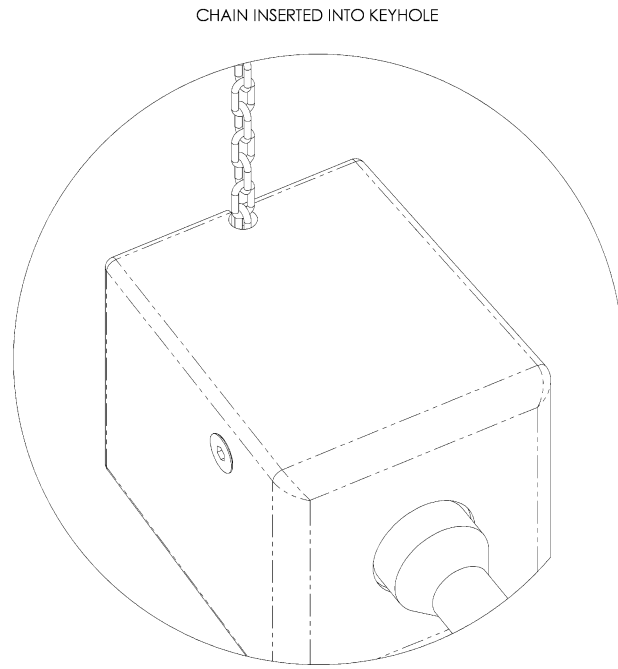
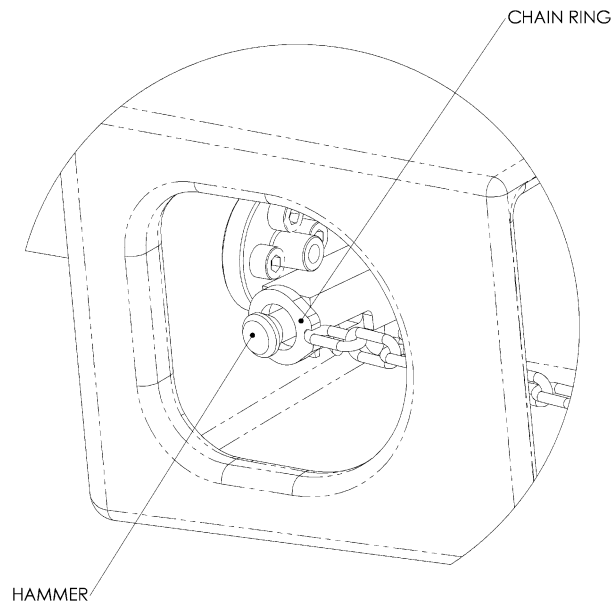
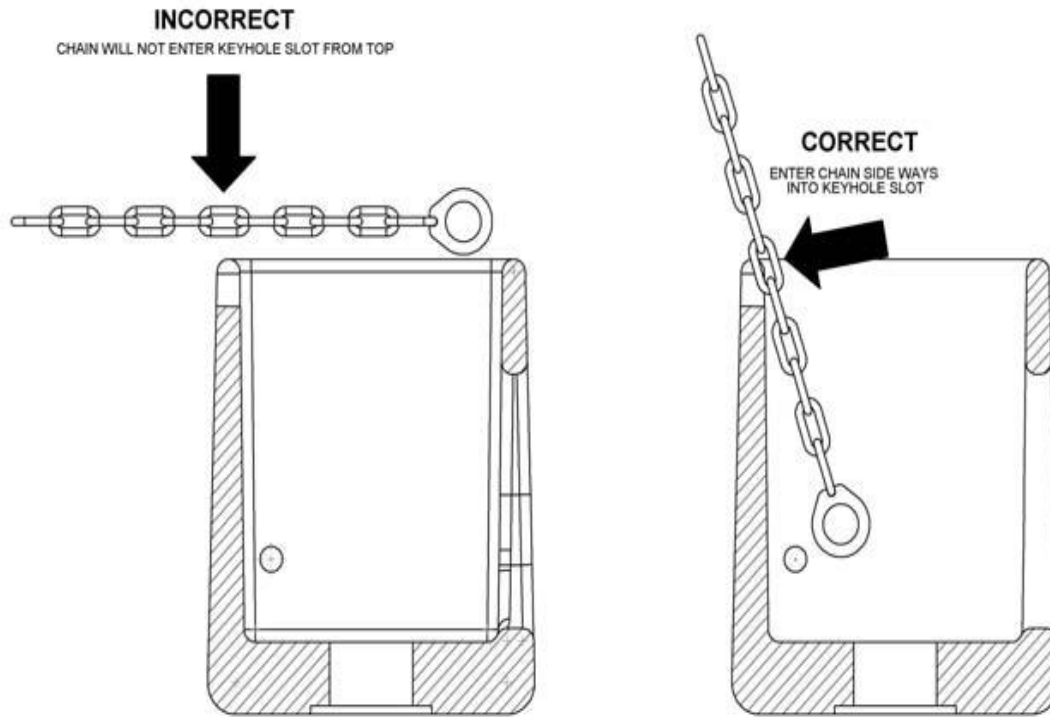

Figure 2-3 Chain Ring Inserted Through Head
Figure 2-4 Chain Ring Connected to Hammer Assembly
Figure 2-5 Correct Chain Ring Placement
10. Insert the Chain Ring Connector **THROUGH** the slot (**Figure 2-3**) in the Head Assembly and place the Connector Ring onto the top knob of the Hammer Assembly (**Figure 2-4**). See (**Figure 2-5**) for correct insertion of Chain Ring into Head Assembly slot. Chain insertion must be from side position. Insertion from top position will not allow chain to enter slot.